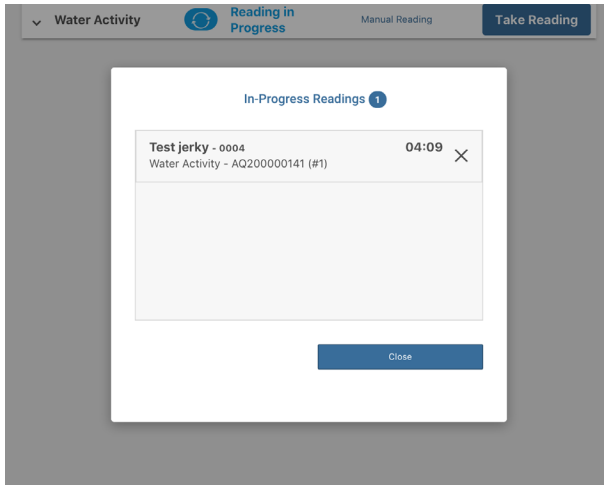

Figure 58 In Progress Reading popup window
The In Progress Readings popup window will appear (Figure 58).
12. Select the **Close** button to close the In-Progress dialog window and return to the readings window (Figure 58).